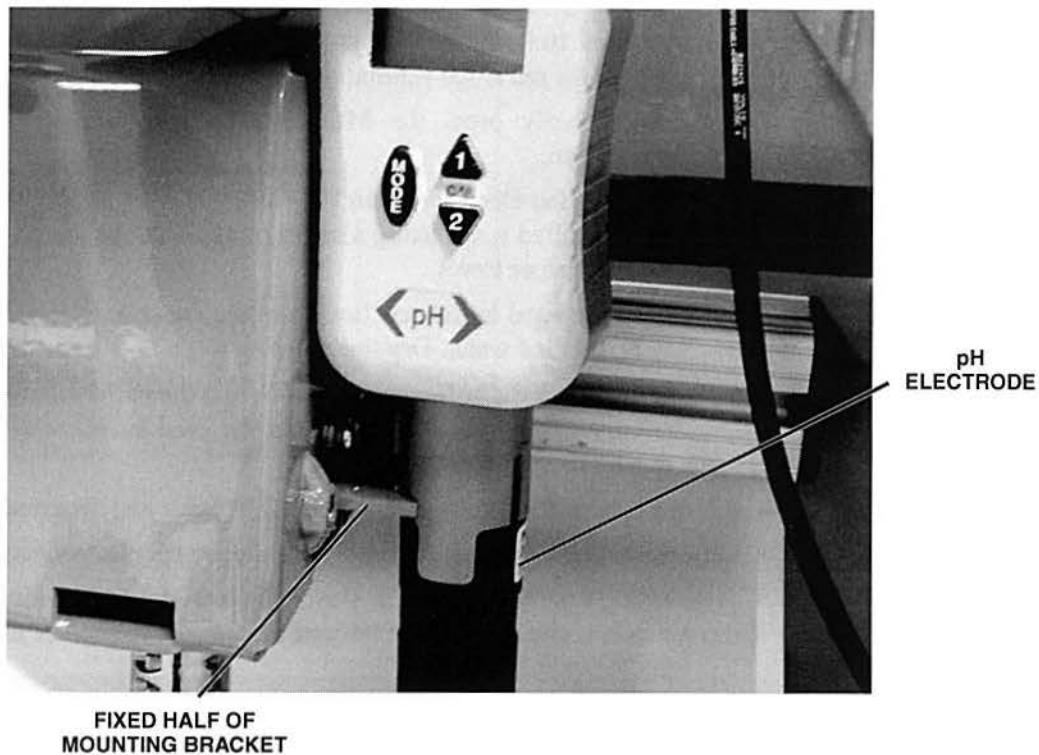

Figure 35.pH Electrode Placed Inside Fixed Half of Mounting Bracket
- B. Place the pH electrode inside the fixed half of the mounting bracket, as shown in figure 35, and hold it there. Be sure the actual sensing tip of the electrode is as deep in the reactor tank as possible.